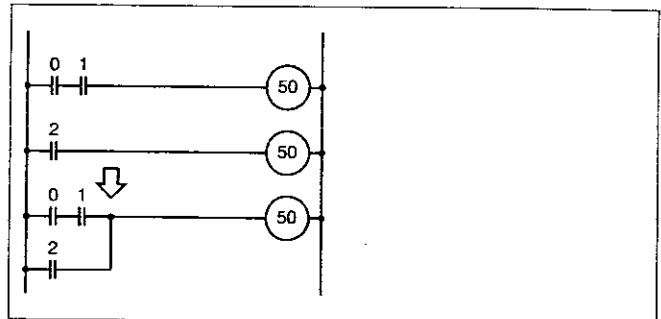

Figure 14.5
- e. An output (timer/counter) can be assigned only once in the program (see upper part of figure 14.5). If this output is required for several circuit constellations, then the circuit diagram (program) must be modified as shown in the lower part of figure 14.5.